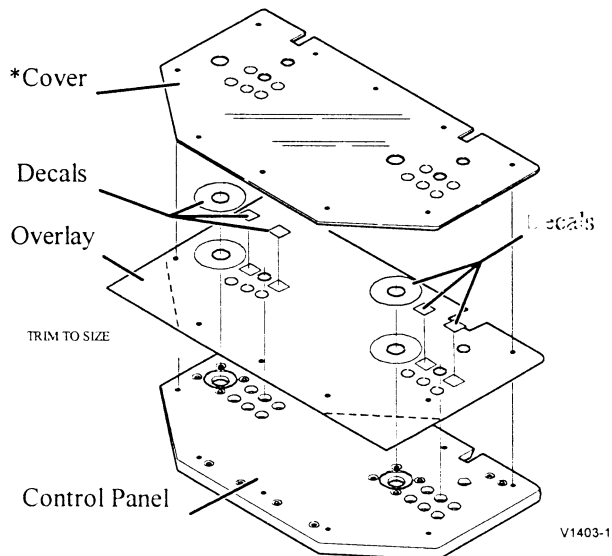
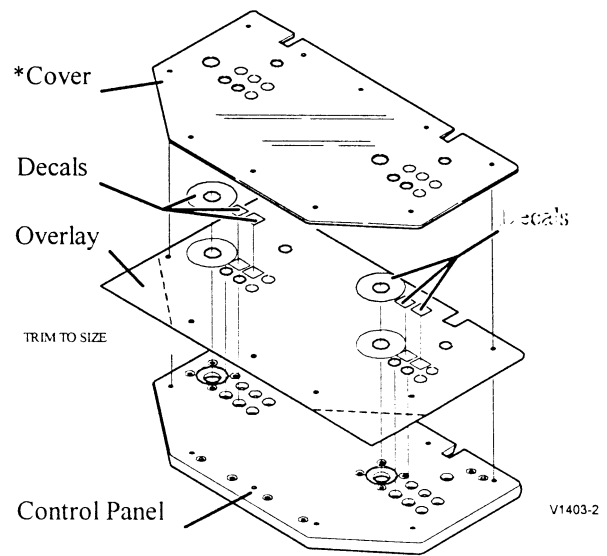

Figure 1: Overlay Installation (“FULL Kit”)
Figure 2: Overlay Installation (“B Kit”)
CONTROL PANEL OVERLAY (SEE FIGURE 1, SEE FIGURE 2)
12. Re-install all switches on the buttons as shown in Figure 2. Orient the switches so that when a button is pressed, the red contact on the switch is depressed.